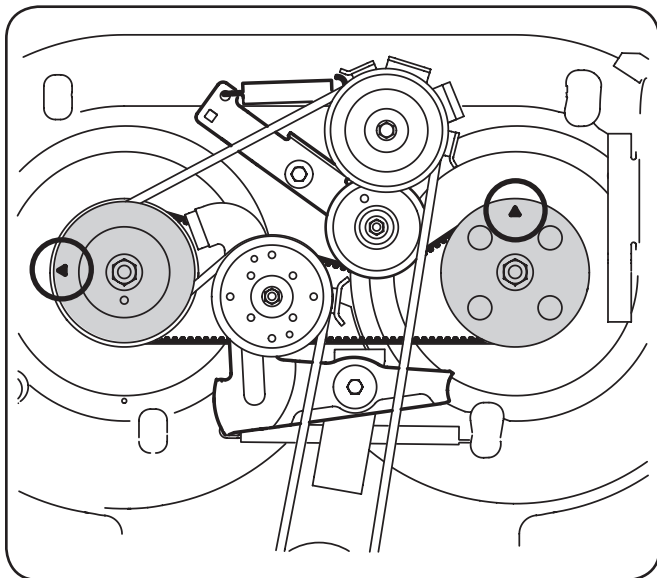

Figure 6-6
2. The top of each spindle pulley is marked with an arrow. See Figure 6-6. The arrows should be perpendicular (at a 90° angle) to each other.